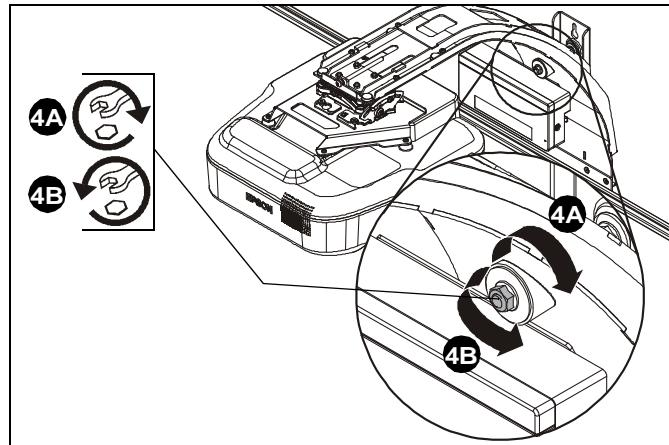

Figure 12
4. Place a level on top of the boom arm mount and level the mount after the projector is installed. (See Figure 12)
5. Place a level on top of interface (T) and level. (See Figure 12)